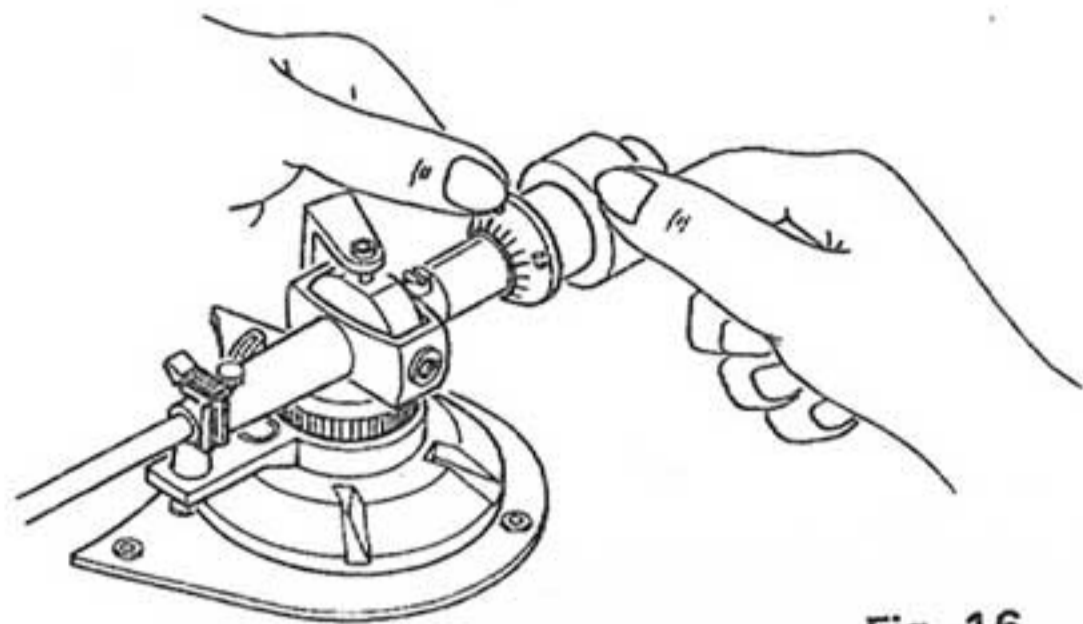

Fig. 16
5. Hold the counterweight and turn the tracking force dial until "0" is aligned with the base line, as shown in Fig. 16.